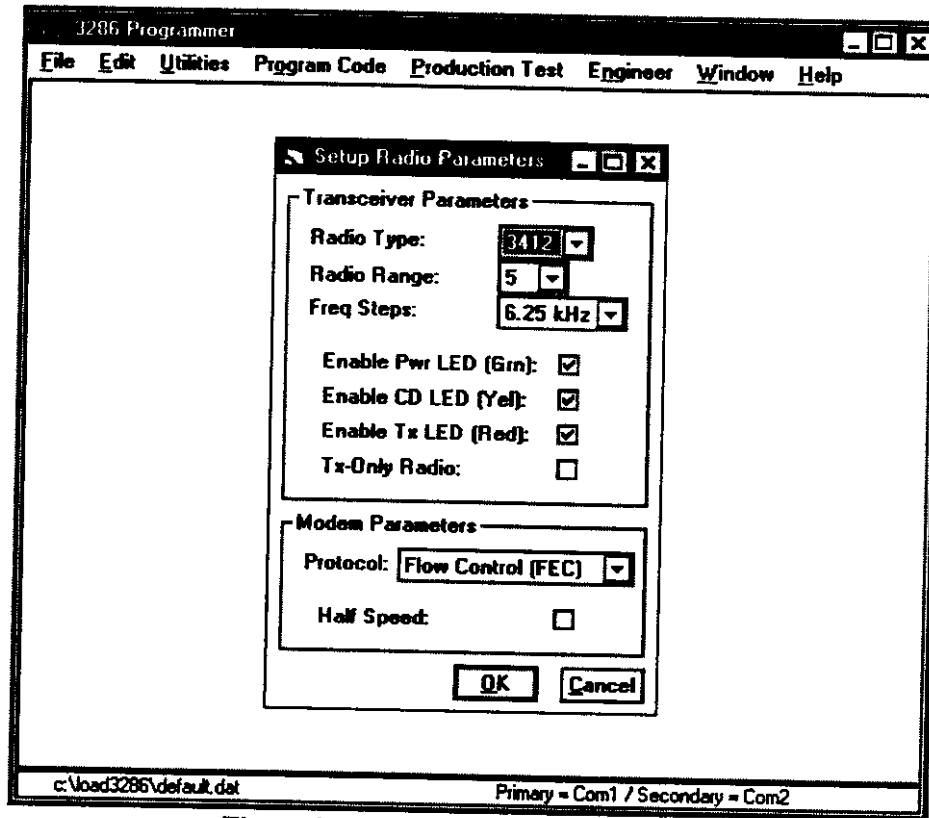

Figure 3-2 Edit Radio Types Window
- LED Functions - There are three LEDs on the 3286 modem. When there is power to the modem, the Power LED (green) will be lit. When the receiver is receiving a carrier, the CD LET (yellow) will be lit. When the transmitter is transmitting a signal, the TX LED (red) will be lit. These LEDs can be enabled by clicking next to each one (see Figure 3-2.)